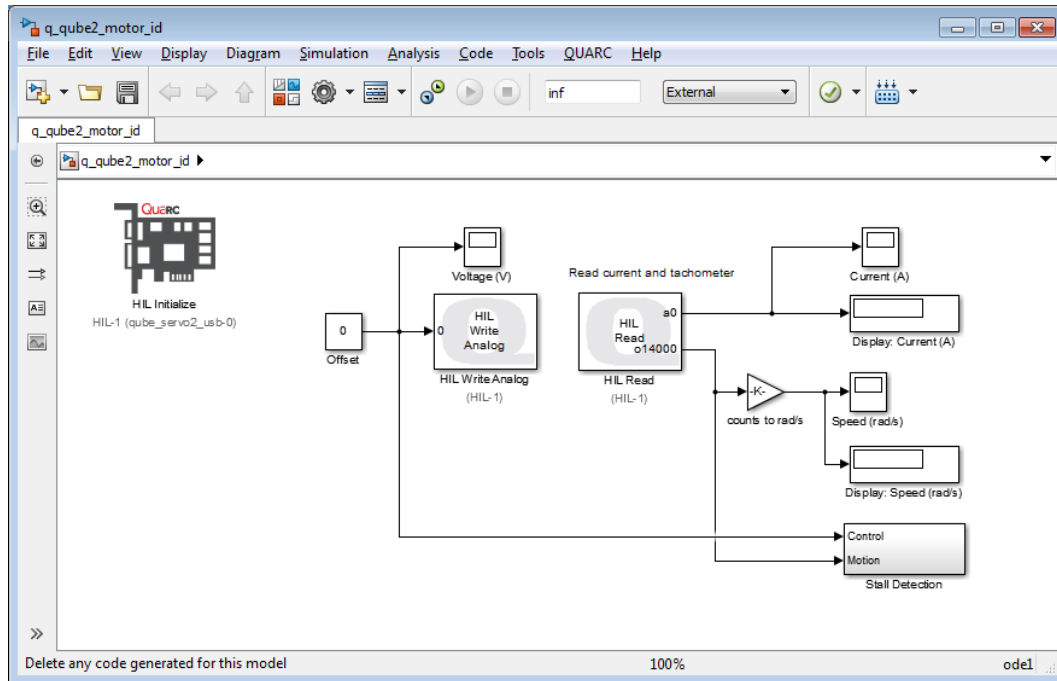

Figure 2.1: QUARC controller that applies a voltage to the DC motor and measures motor current and speed
Based on the QUARC controller designed in QUBE-Servo 2 Filtering laboratory experiment, design a controller that can apply a constant voltage to the motor and read the servo velocity using the encoder (or the tachometer on channel 14000) as shown in Figure 2.1. Configure the HIL Read block to also read from the current sensor on analog input channel #0.
4. To experimentally estimate the motor resistance, apply a set of voltages to the QUBE-Servo 2 using the model in Figure 2.1. For each measurement, *hold the motor shaft stationary* by grasping the inertial disc load to stall the motor and record the current measurement displayed in the *Current (A)* display. Fill the following table with the measured current for different voltage and calculate the corresponding resistance.